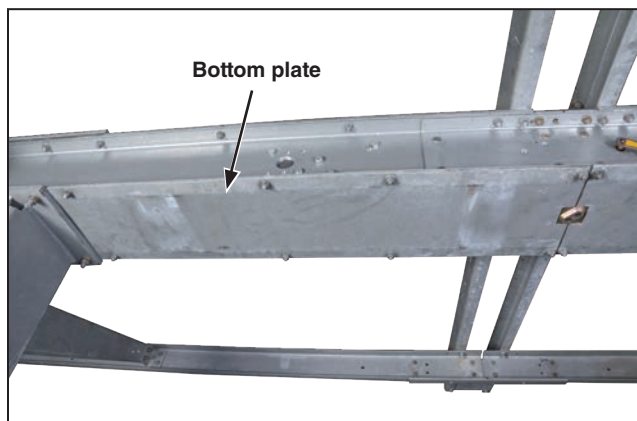

Figure 7. Removing the bottom plates from the high-speed base.
STEP 1. Loosen the $\frac{1}{2}$ -13 \times 1 $\frac{1}{4}$ -inch galvanized steel cap screws, flat washers, and nuts used to attach the bottom plates and lifting angles to the underside of the high-speed base. Remove the plates and place them and their hardware aside on a clean surface. Discard the lifting angles. See Figure 7.